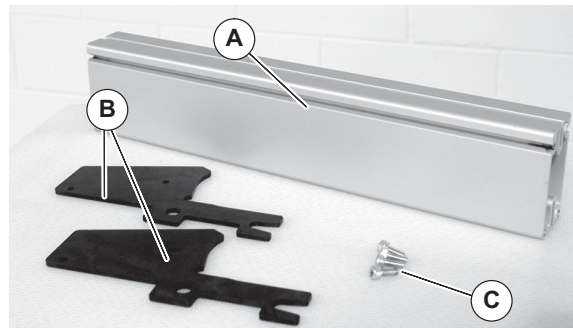

Figure 11
- Gather components (Figure 11)